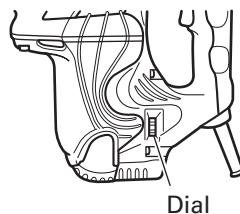

Fig. 4
8. Regulating the number of rotations and hammering (Fig. 4)